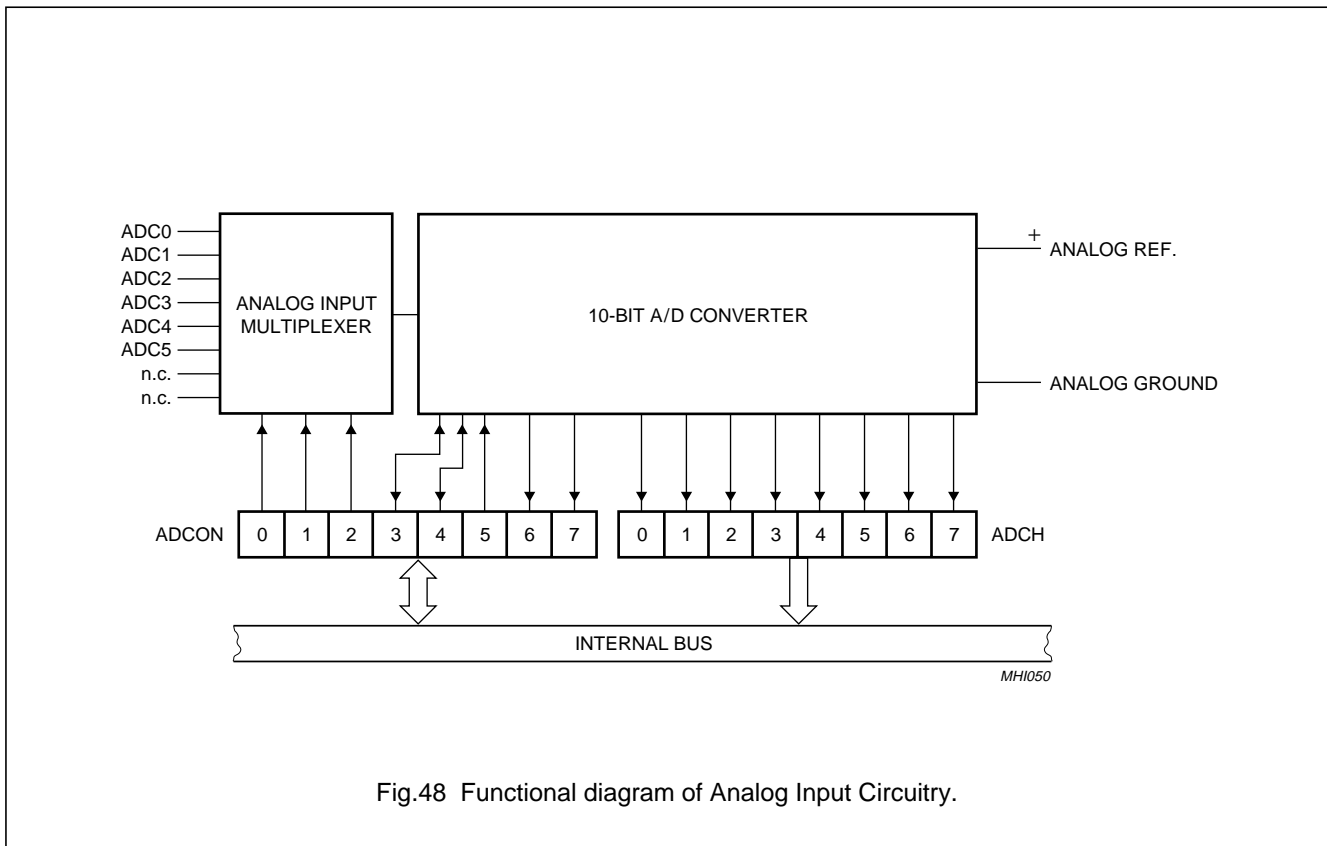

Fig.48 Functional diagram of Analog Input Circuitry.
The analog input circuitry consists of an 6-input analog multiplexer and a 10-bit, straight binary, successive approximation ADC. The A/D can also be operated in 8-bit mode with faster conversion times by setting bit ADC8 (AUXR1.7). The 8-bit result will be contained in the ADCH register. The analog reference voltage and analog power supplies are connected via separate input pins. For 10-bit accuracy, the conversion takes 50 machine cycles, i.e., 25  $\mu$ s at an oscillator frequency of 12 MHz. For the 8-bit mode, the conversion takes 24 machine cycles. Input voltage swing is from 0 V to +5 V. Because the internal DAC employs a ratiometric potentiometer, there are no discontinuities in the converter characteristic. Figure 48 shows a functional diagram of the analog input circuitry.
Figure 48 shows the elements of a successive approximation (SA) ADC. The ADC contains a DAC which converts of a successive approximation register to a voltage (VDAC) which is compared to the analog input voltage ( $V_{IN}$ ). The output of the comparator is fed to the successive approximation control logic which controls the successive approximation register. A conversion is initiated by setting ADCS in ADCON register. ADCS can bet set by software only.
otherwise the bit being tested is cleared. This process is repeated until all ten bits have been tested, at which stage the result of the conversion is held in the successive approximation register. Figure 48 shows a conversion flow chart. The bit pointer identifies the bit under test. The conversion takes four machine cycles per bit.
Figure 48 shows how the ADC is realized. The ADC has its own analog ground ( $AV_{SS}$ ) and a positive analog reference pin ( $V_{ref+}$ ) connected to each end of the DAC's resistance-ladder. The ladder has 1023 equally spaced taps, separated by a resistance of "R". The first tap is located  $0.5 \times R$  above  $AV_{SS}$ , and the last tap is located  $1.5 \times R$  below  $V_{ref+}$ . This gives a total ladder resistance of  $1024 \times R$ . This structure ensures that the DAC is monotonic and results in a symmetrical quantization error is shown in Figure 48.